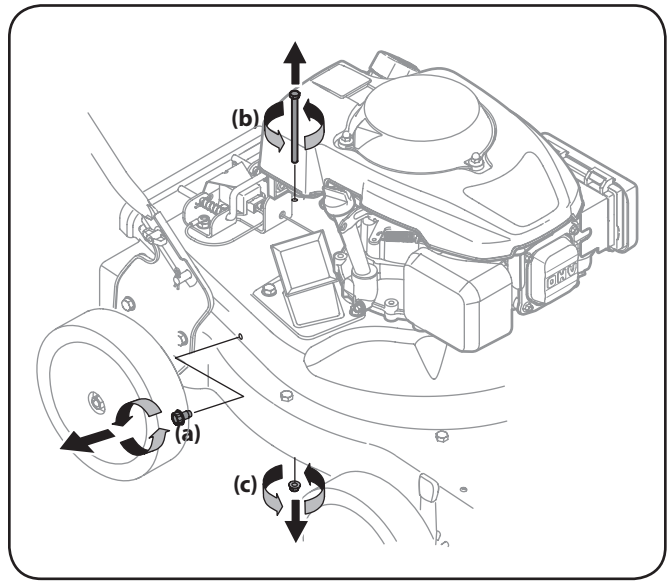

Figure 6-2
4. Remove self tapping screw (a) on right side of unit that attaches to the flail screen. See Figure 6-2.
5. Remove hex screw (b) on top of rear housing near mounting bracket and the flange lock nut (c) that secures flail screen. See Figure 6-2.